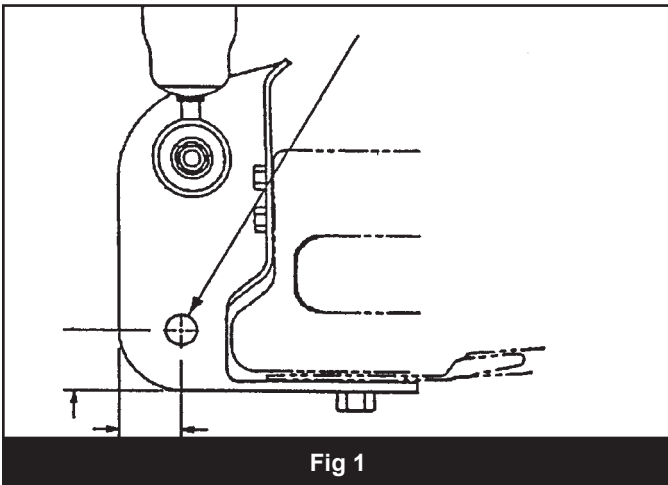

Fig 1
2. Drill a 5/8" hole through the right front (passenger side) OEM shock mount as noted in Figure 1. For a dual stabilizer, complete this step on the driver side as well.